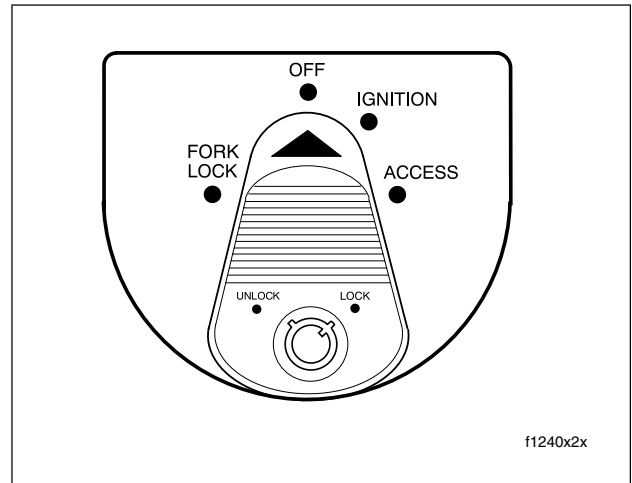

Figure 3-7. Ignition Switch (FLTR, FLHT/C/U)
- See Figure 3-7. “Key ON” means that the ignition key is turned to IGNITION and the engine stop switch is set to RUN (although the engine is **not** running).